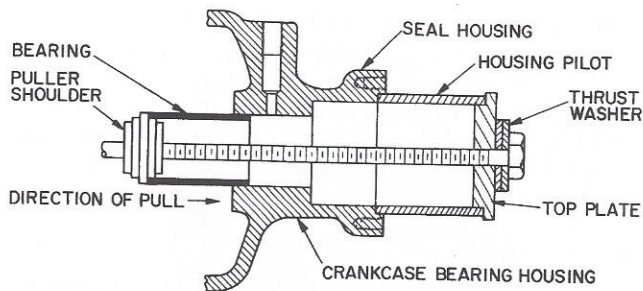

Fig. 47 — Seal-End Main Bearing (5F40, 60)
3. Press bearing into place using a puller shoulder (Table 12 and Fig. 47 and 48) and jack screw or bearing press.
**DISASSEMBLY AND INSPECTION** — With crankshaft removed, use a bearing puller with a shouldering device to remove and install seal-end main bearings (Fig. 47 and 48). Bearing pullers can be ordered through Carrier or Totaline Parts.